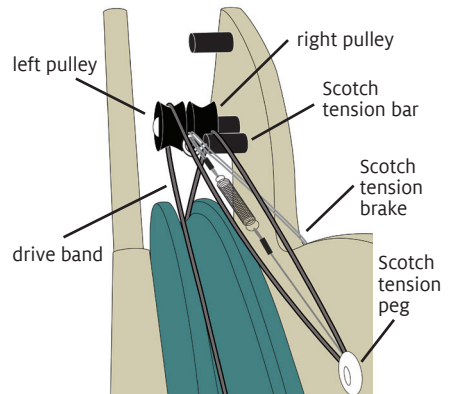

FIGURE 5: SET UP NEW DRIVE BAND
**10.** Set up the drive band on the pulleys: Pull up the drive band from the rear of the drive wheel and arrange it as shown in Figure 5: from the front of the drive wheel behind the left pulley, and from the rear of the drive wheel between the right pulley and the Scotch tension bar. Hook the drive band around the Scotch tension peg inside the wheel temporarily.